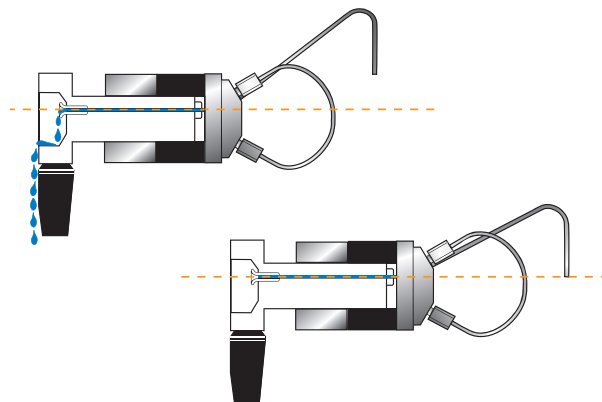

Figure 2 Needle port level compared to the level of vent line outlet:
3. If fluid leaks from the needle port and/or vent lines but eventually stops, the cause is most likely siphoning and not a leak. Siphoning occurs if the vent lines are lower or higher than the needle port. Adjust the vent line(s) so that the outlet is at the same horizontal level as the needle port to prevent siphoning. (See Figure 2).